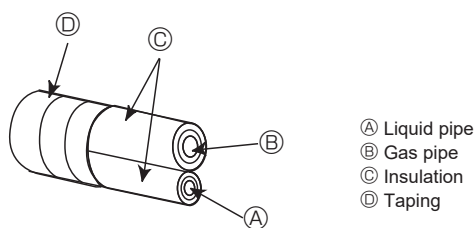
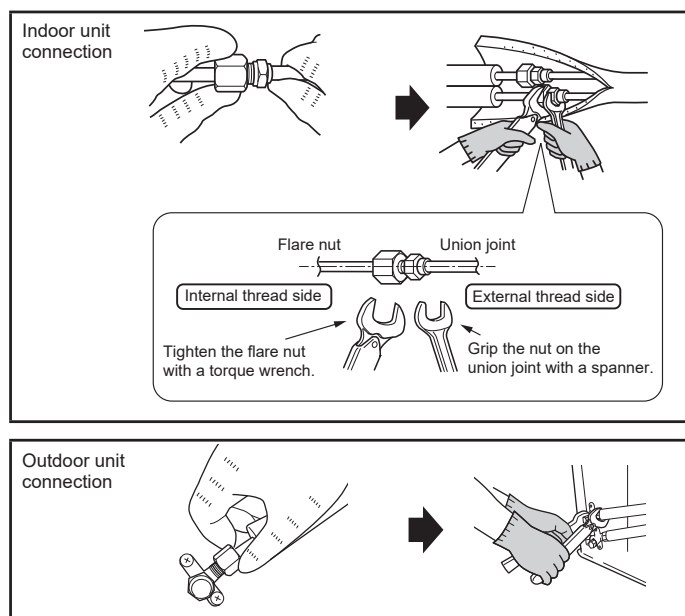

Fig. 4-4
Fig. 4-5
4.3. Connecting pipes (Fig. 4-4, Fig. 4-5)
Ⓐ (Fig. 4-5)